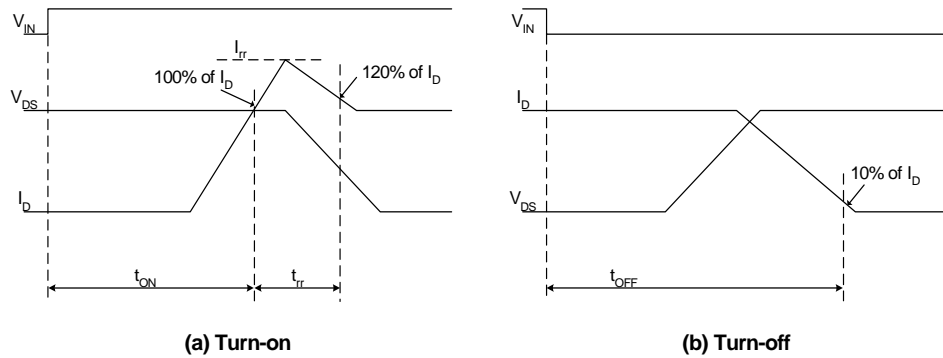
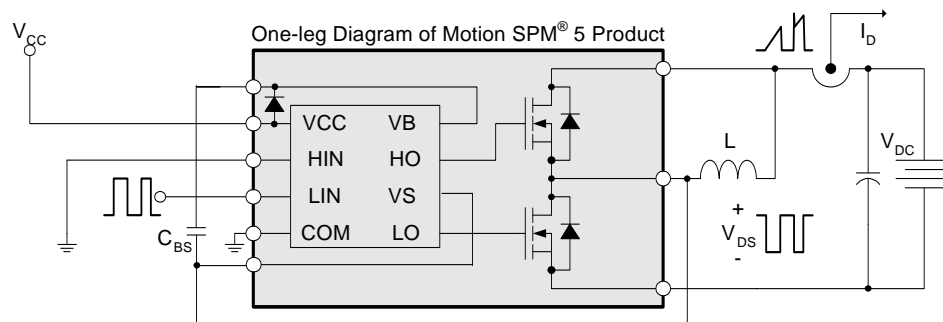

Figure 5. Switching Time Definitions
Figure 6. Switching and RBSOA (Single-pulse) Test Circuit (Low-side)
- t_{ON} and t_{OFF} include the propagation delay of the internal drive IC. Listed values are measured at the laboratory test condition, and they can be different according to the field applications due to the effect of different printed circuit boards and wirings. Please see Figure 5 for the switching time definition with the switching test circuit of Figure 6.
- The peak current and voltage of each MOSFET during the switching operation should be included in the Safe Operating Area (SOA). Please see Figure 6 for the RBSOA test circuit that is same as the switching test circuit.